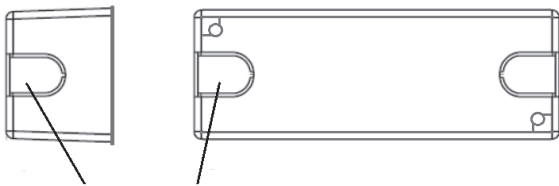

Fig. 3 Cable entry knockouts
- Remove a knockout from the backbox (see Fig. 3)